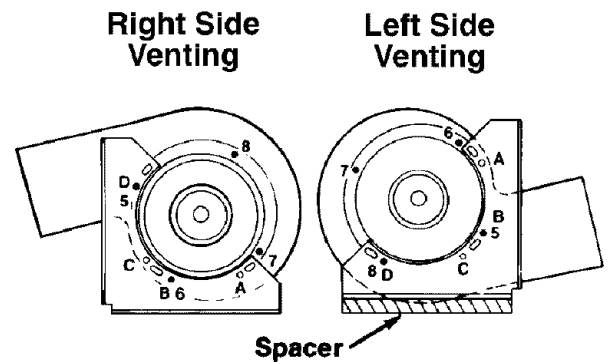

Figure 17
4. Relocate the mounting brackets on the blower housing as shown in figure 17.
a. Right side venting (figure 17).
b. Left side venting (figure 17).
5. Attach the blower housing to the floor with the outlet towards the direction of the venting and the inlet towards the front of the cabinets. In addition, for left side venting, a spacer of approximately 1-1/2" thick x 9" long (3.81 cm x 22.86 cm) is required under the mounting bracket flanges of the blower assembly (see figure 17).